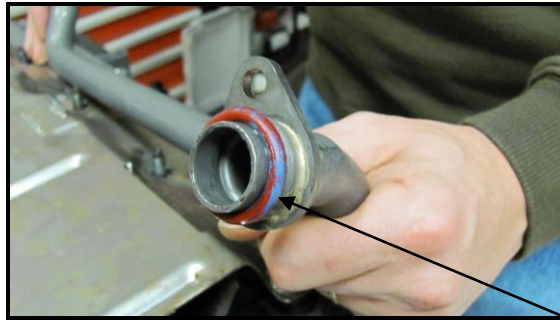

Figure 4
2. Install the supplied O-ring onto the oil pump pickup screen assembly and lubricate with clean engine oil (Figure 4).